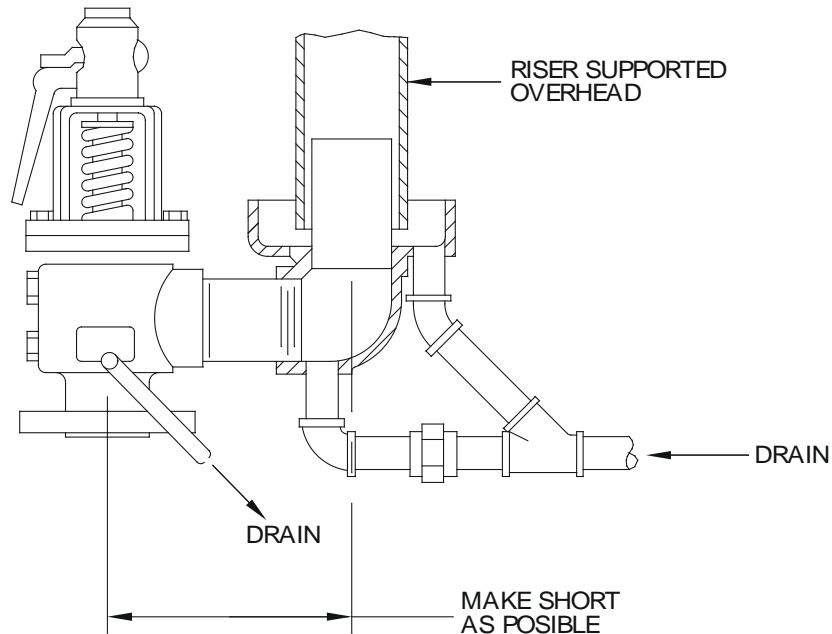

Figure 27. Typical Safety Valve Piping
- 16.2 Discharge pipes must not be rigidly connected to safety valves. Clearances should be provided to allow for expansion. A drip pan elbow installed similar to the illustration in Figure 27 will provide clearances and also prevent the accumulation of steam condensate from flooding the safety valve outlet and subsequently freezing or otherwise restricting flow. The drain must discharge to an open sewer. Do Not connect to blowdown piping.